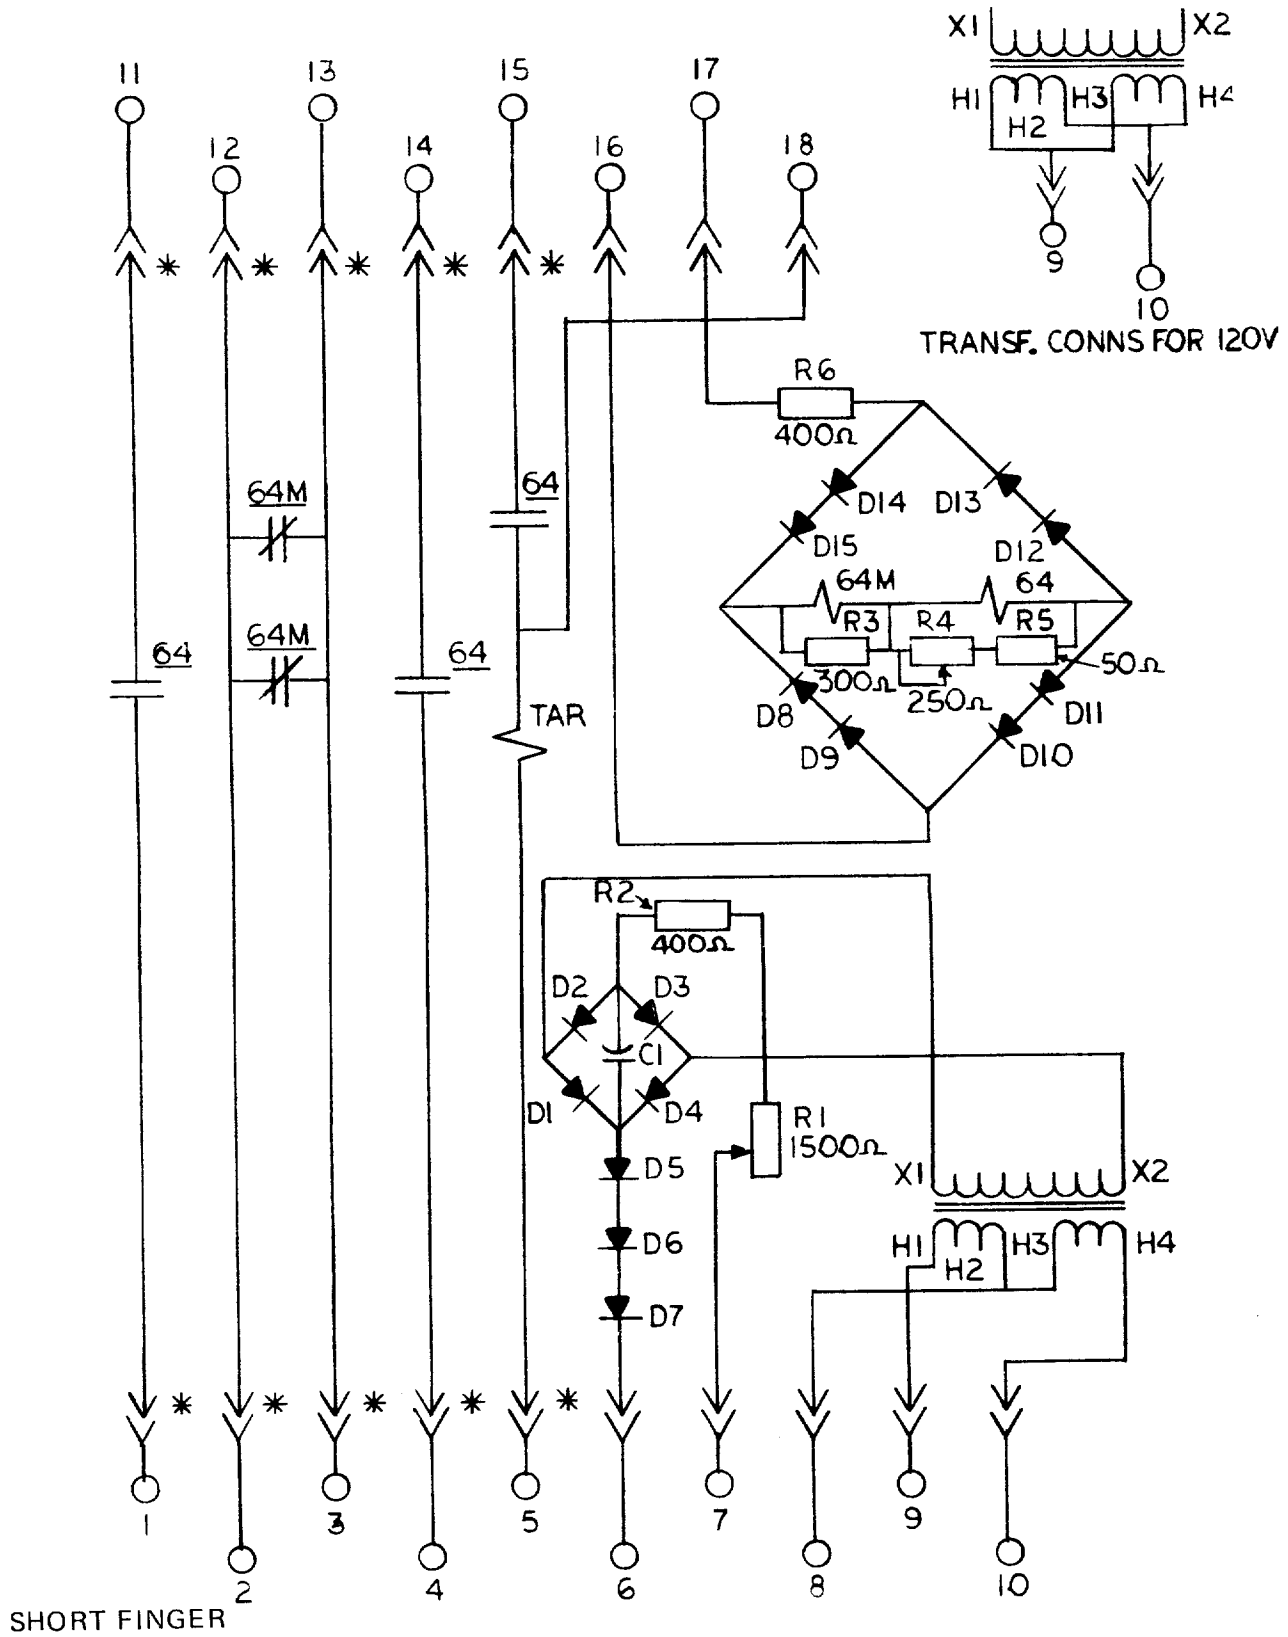
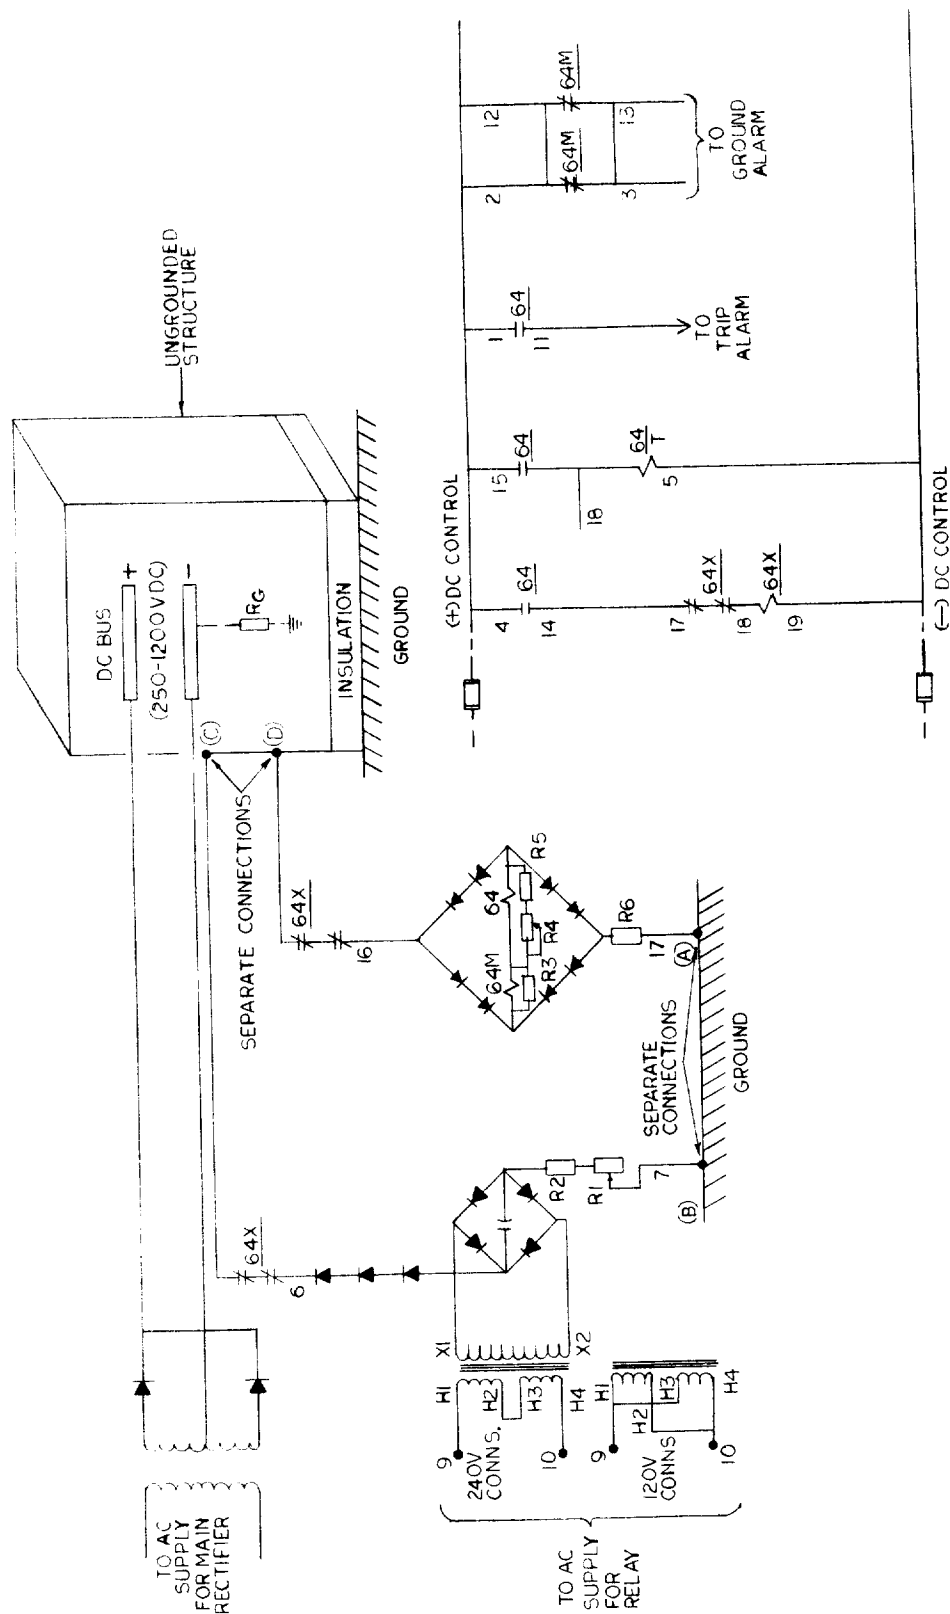

Fig. 2 (0257A9784-2) Internal Connections for NBG12A
Fig. 3 (138B7268-0) External Connections for NBG12A
If the structure to be protected is ungrounded and the negative bus in the structure is normally grounded, the relay should be connected as shown in Fig. 3. For systems with the positive bus grounded normally, connections to studs 6 and 7 should be interchanged.
With the relay connected as shown in Fig. 3 its operation is as follows:
4. Make sure that the fingers in the relay cradle and case blocks agree with the internal connections diagram. The internal connections diagram is included here as Fig. 2.
1. The transformer primary will be connected for 240 volt operation unless otherwise specified when ordered. If 120 volt operation is desired reconnect the transformer primary as shown in the insert of Fig. 2.
Internal connections are shown in Fig. 2. Typical external connections are shown in Fig. 3.
Note that on the external connection diagrams (Fig. 3) the ground connections (A and B) must be physically separate. The reason for this can be seen in Fig. 4.
The existence of the above conditions may make it desirable to readjust the sensitivity of the 64M unit to structure grounds. To do this, the relay should be connected as shown in Fig. 3 with the dc bus energized. Connect a source of variable ac voltage to studs 9 and 10 (after removing normal supply). Vary the input voltage as in Step 4 of the ACCEPTANCE TESTS section, noting that the operation of the 64 and 64M units should be as indicated. If, when the test voltage is reduced to 80 percent of rating, the 64M unit drops out, this indicates that the output of the diode bridge is being shunted by the leakage path pointed out in (1) above. To check for leakage as pointed out in (2) above, connect an ammeter between stud 17 and ground. The difference in current flow when the bus is energized is the leakage current. To prevent the 64M unit from dropping out when the ac voltage is reduced to 80 percent of rating, rheostat R1 can be readjusted. Decreasing R1 causes more current output from the diode bridge for a given input voltage and thus lowers the dropout of the 64M relay. If R1 (left hand potentiometer, front view) is decreased, it will be necessary to check that the 64 unit does not pick up when the ac voltage is increased to 110 percent of rating. Should the 64 unit pick up, it will be necessary to readjust its pickup level. To increase the pickup level decrease the resistance of rheostat R4 (right hand potentiometer, front view) which is in parallel with the 64 unit coil. Since increasing the pickup of the 64 unit desensitizes it to faults involving the dc bus and the dc structure the pickup should be increased to a level no more than necessary to prevent its operating when the supply voltage is increased to 110 percent of rating. After the above tests have been completed, remove the test voltage and reconnect the supply voltage to studs 9 and 10.